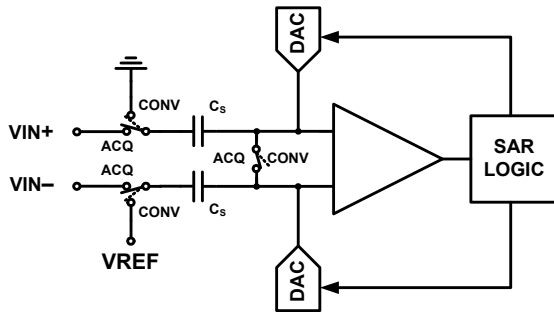

FIGURE 21. SAR ADC ARCHITECTURAL BLOCK DIAGRAM
The ISL267440, ISL267450A are based on a successive approximation register (SAR) architecture utilizing capacitive charge redistribution digital to analog converters (DACs). Figure 21 shows a simplified representation of the converter. During the acquisition phase (ACQ) the differential input is stored on the sampling capacitors (CS). The comparator is in a balanced state since the switch across its inputs is closed. The signal is fully acquired after  $t_{ACQ}$  has elapsed, and the switches then transition to the conversion phase (CONV) so the stored voltage may be converted to digital format. The comparator will become unbalanced when the differential switch opens and the input switches transition (assuming that the stored voltage is not exactly at mid-scale). The comparator output reflects whether the stored voltage is above or below mid-scale, which sets the value of the MSB. The SAR logic then forces the capacitive DACs to adjust up or down by one quarter of full-scale by switching in binarily weighted capacitors. Again, the comparator output reflects whether the stored voltage is above or below the new value, setting the value of the next lowest bit. This process repeats until all 12 bits have been resolved.